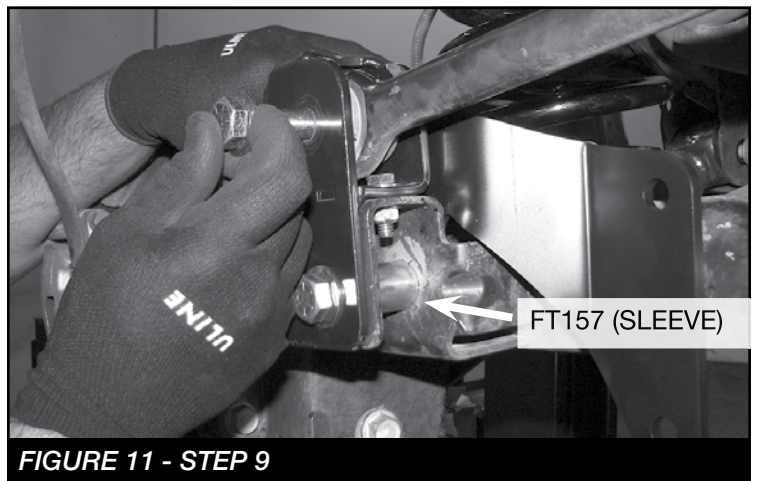

FIGURE 11 - STEP 9
10. Install FT50438BK (Rear Track Bar Support) using the supplied (2) 9/16-12 X 3-1/4" bolts and hardware. Leave loose. **NOTE: Install the lower bolt first using the FT157 sleeve. SEE FIGURE 11**